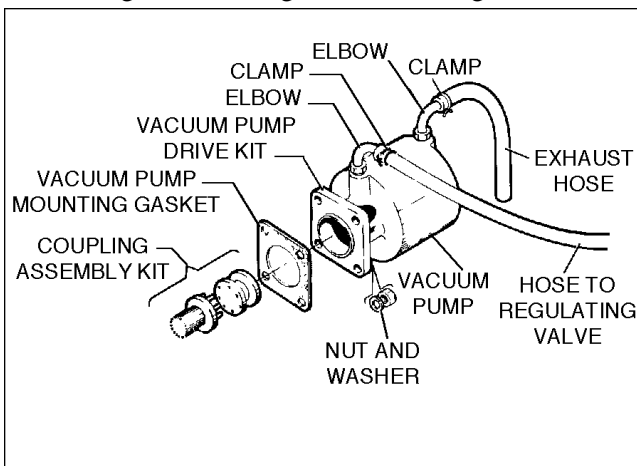

Figure 10-1. PA-28-151, Warrior and PA-28-161, Warrior II Vacuum Pump
## 10-17. REMOVAL AND INSTALLATION OF ENGINE DRIVEN VACUUM PUMP. (Refer to Figures 10-1 and 10-2)
- a. To remove *engine driven* vacuum pump. (Refer to Figures 10-1 and 10-2.):
- b. Installation of *engine driven* vacuum pump. (Refer to Figures 10-1 and 10-2.):